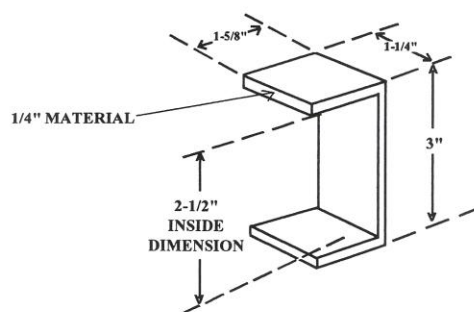
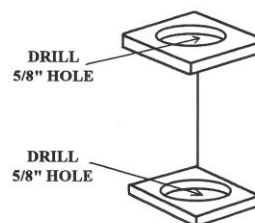

FIGURE 12
FIGURE 13
7. BEND 2 FRONT SPINDLE SUPPORT BRACKETS AS SHOWN IN FIGURE 12. BE SURE THAT YOU LEAVE 2-1/2" INSIDE MEASUREMENT. DRILL 5/8" HOLES AS SHOWN IN FIGURE 13 BELOW.